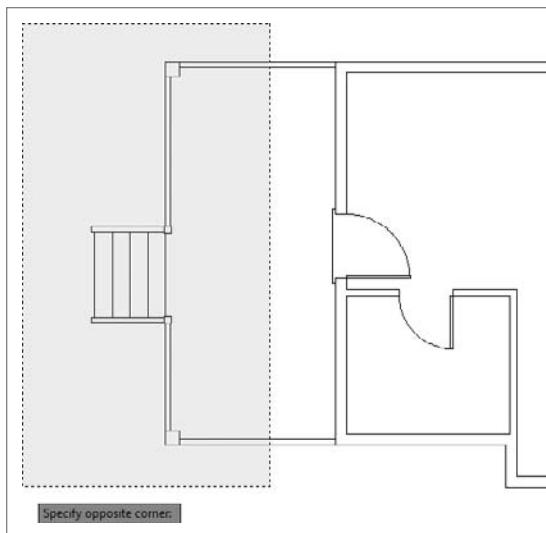

FIGURE 5.33 Selecting the deck components for the STRETCH command
4. At the **Select objects:** prompt, place the cursor above the deck and to the right of the stairs, but be sure the point is to the left of the threshold (see Figure 5.33).
5. At the **Specify opposite corner:** prompt, click a point outside and to the left of the deck, as shown in Figure 5.33.